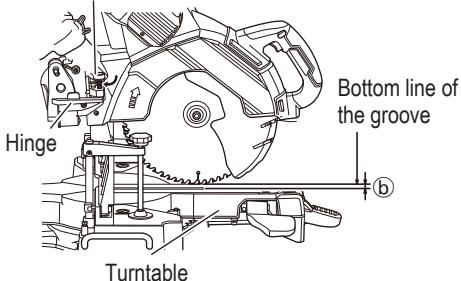

Fig. 53
- Lower the motor head, and turn the 6 mm depth adjustment bolt by hand shown in Fig. 53. (Where the head of the 6 mm depth adjustment bolt contacts the hinge.)